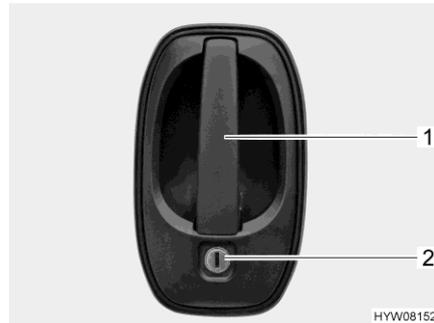

Fig. 35 Door lock (driver's door/conversion door, outside)
- Insert the key into locking cylinder (Fig. 35,2) and turn until the door lock is unlatched.
- Pull on the door handle (Fig. 35,1). The door is open.
- Insert the key into locking cylinder (Fig. 35,2) and turn until the door lock is engaged.